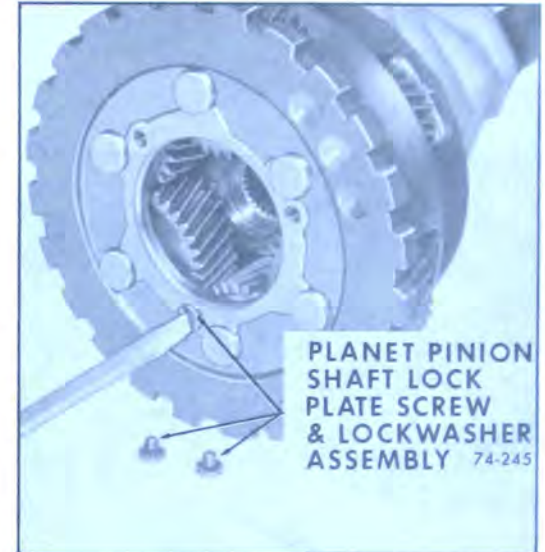

Figure 74-245
1. Remove three (3) planet pinion shaft lock plate screws and lock washers. See Figure 74-245.